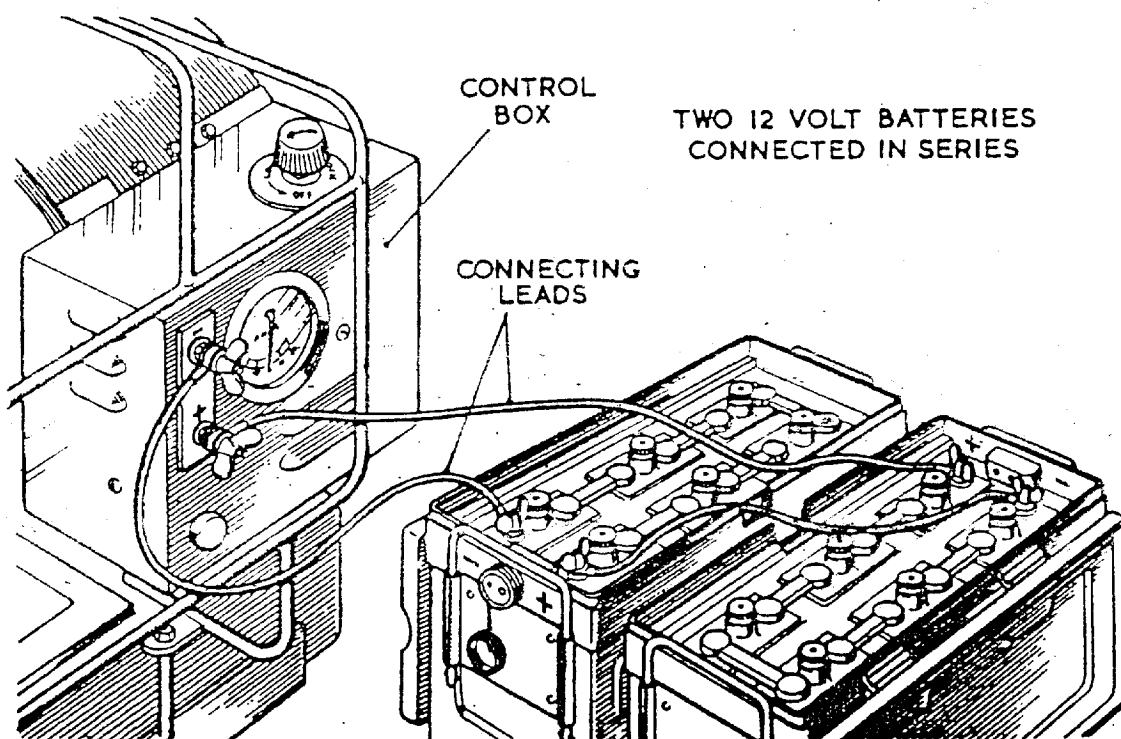

Fig. 16. Battery charging
2.7. Battery charging. Figs. 16 and 17.